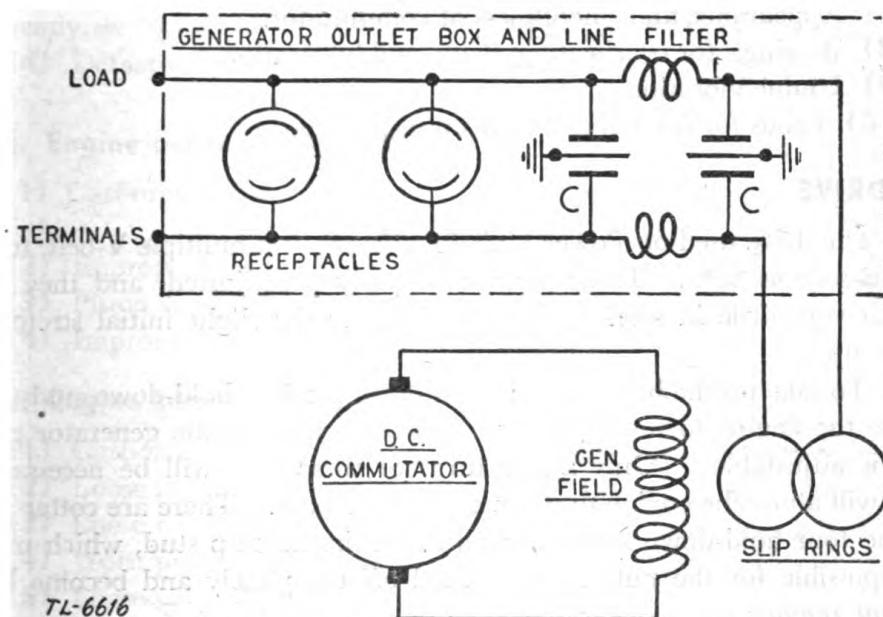

FIGURE 20. Power Unit PE-75-(*), schematic of generator connections.
e. Connections (fig. 20). Keep all connections tight. Any frayed, cut, or worn insulation must be repaired immediately to prevent a possible break-down. See that the lead connections in the conducter (junction) box are properly insulated to prevent grounding against the box or cover.